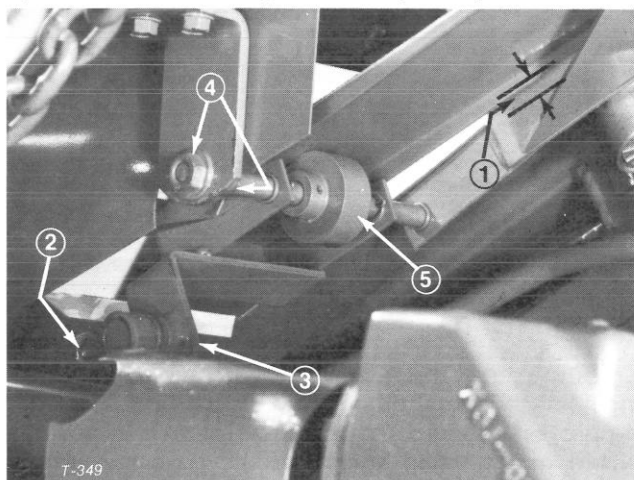

Figure 45
2. Depress traction pedal fully. There must be 1/16 inch (1.6 mm) between inside front edge of pedal and triangular support brace (Fig. 45). If distance is as specified, the control rod is adjusted correctly. If distance is not as specified, proceed to step 3 for an adjustment.
3. Loosen jam nut away from front of control rod (Fig. 45). Remove cotter pin and slotted nut retaining tapered socket in pivot mount on bottom of traction pedal (Fig. 45).
1. Loosen two nuts securing traction pedal shaft on right side of pedal (Fig. 45).